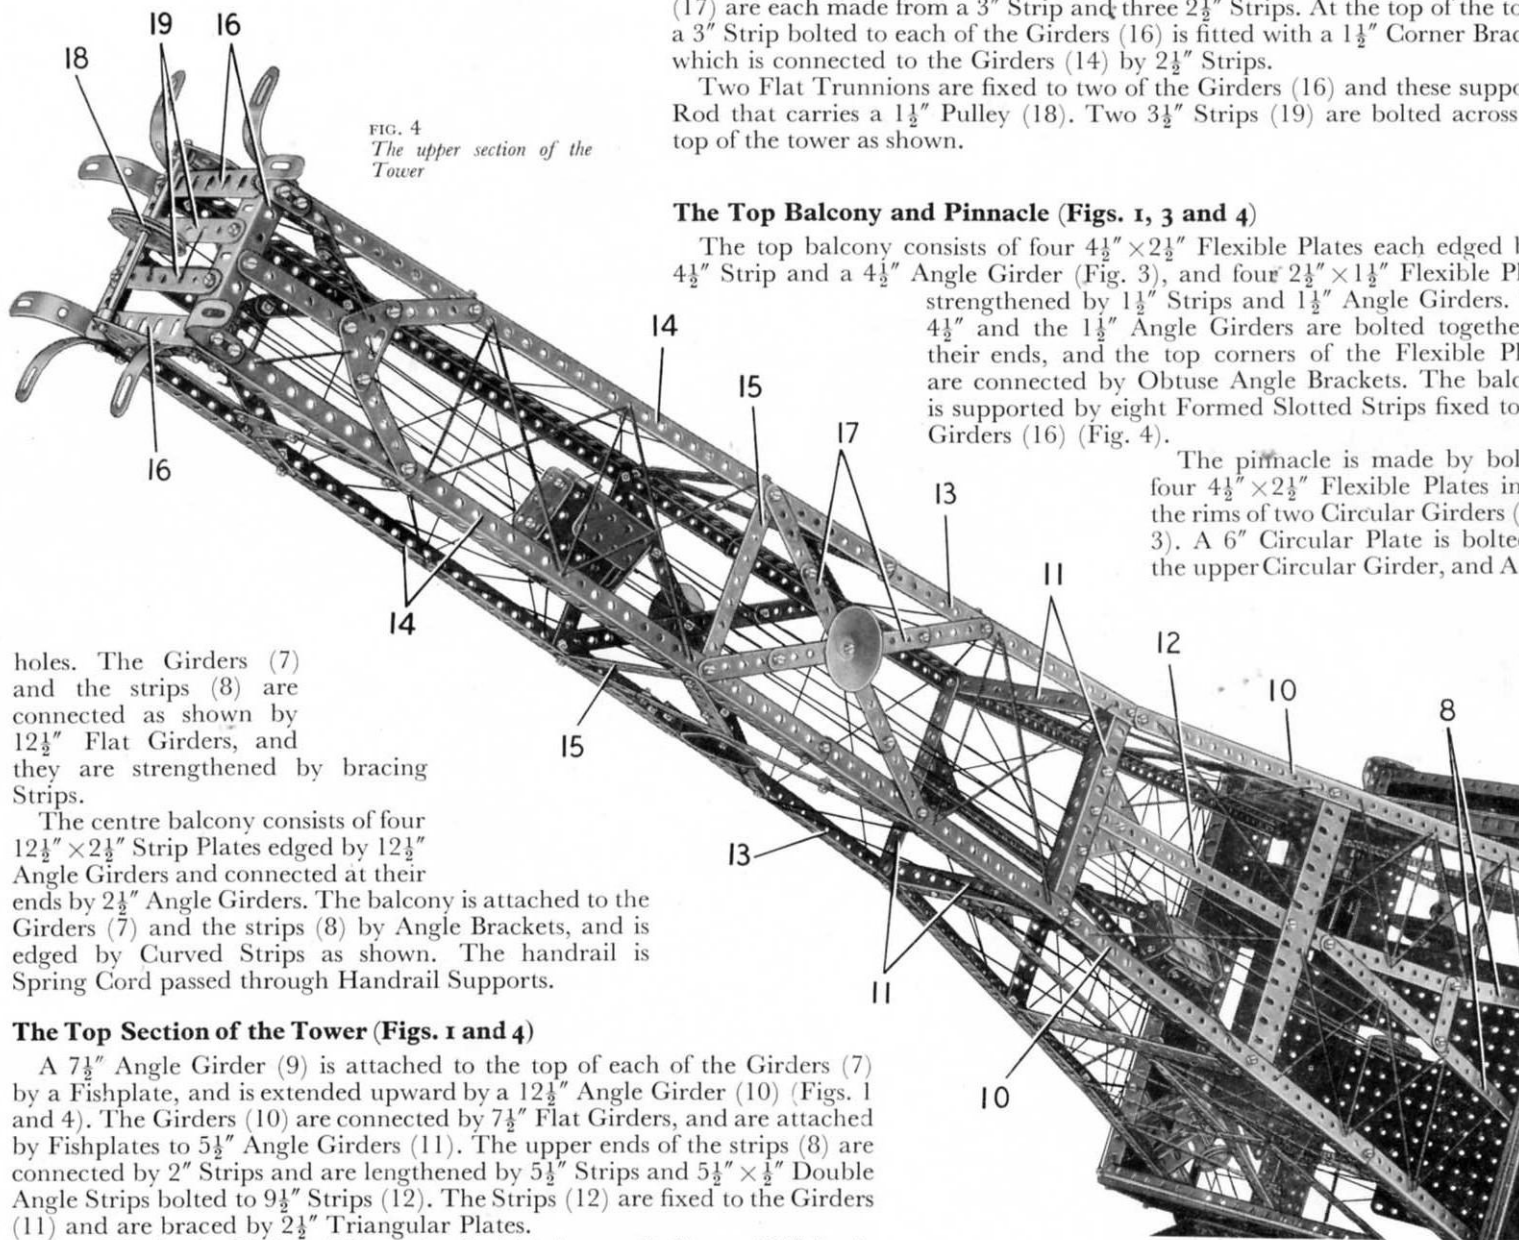
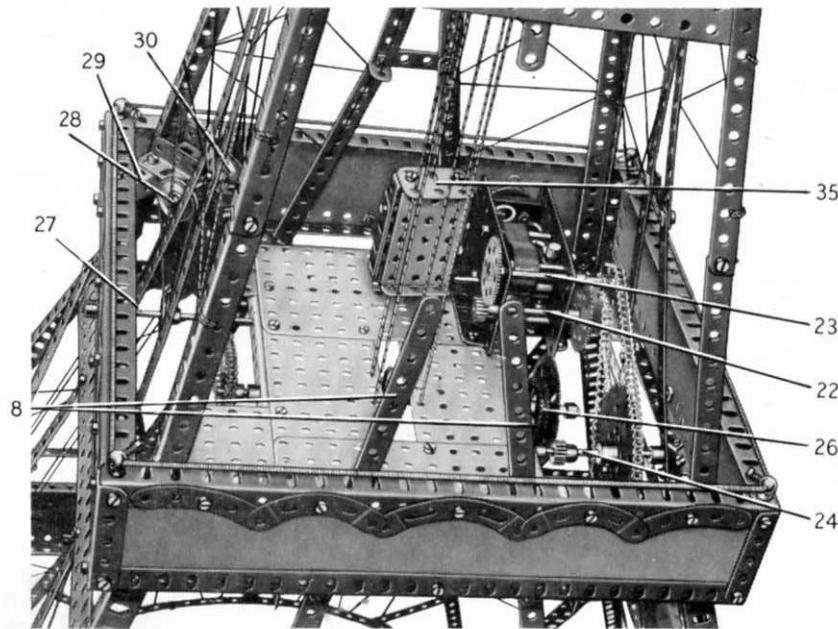
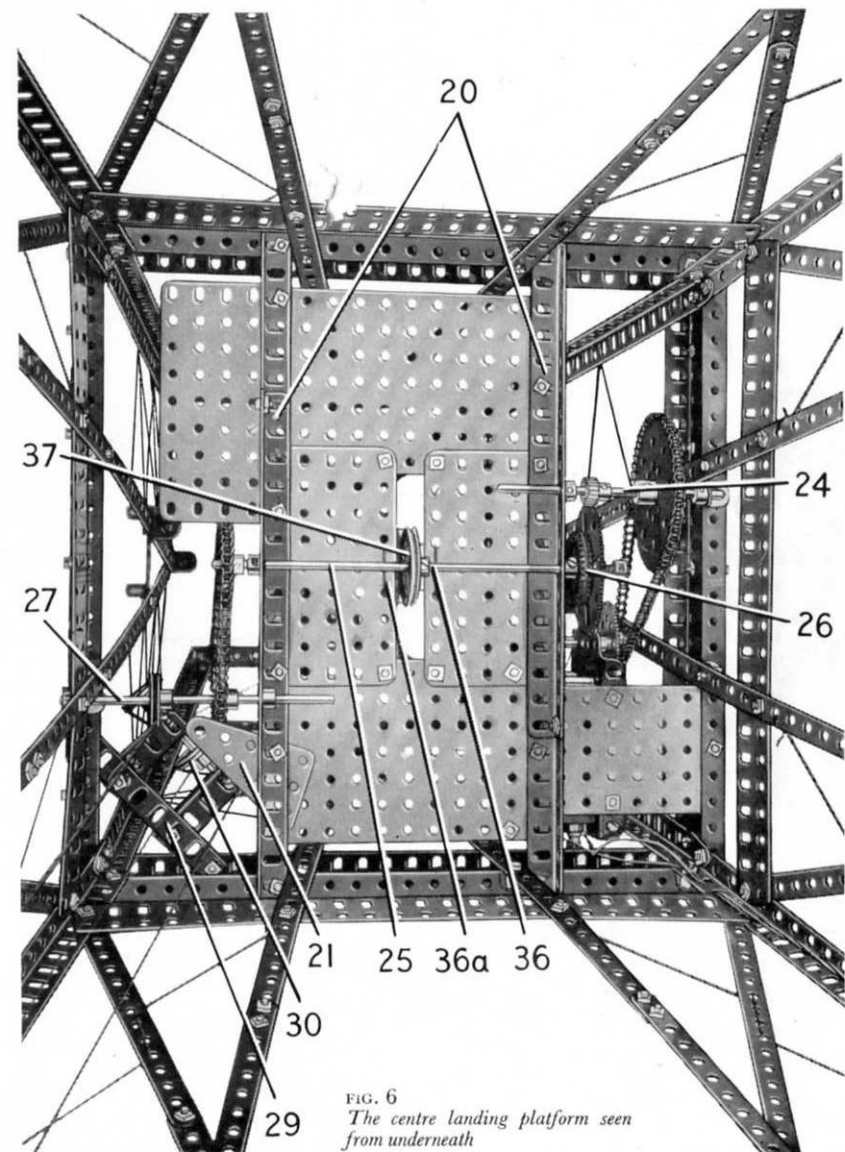

FIG. 4
FIG. 5
FIG. 6
The top balcony consists of four  $4\frac{1}{2}$ "  $\times$   $2\frac{1}{2}$ " Flexible Plates each edged by a  $4\frac{1}{2}$ " Strip and a  $4\frac{1}{2}$ " Angle Girder (Fig. 3), and four  $2\frac{1}{2}$ "  $\times$   $1\frac{1}{2}$ " Flexible Plates strengthened by  $1\frac{1}{2}$ " Strips and  $1\frac{1}{2}$ " Angle Girders. The  $4\frac{1}{2}$ " and the  $1\frac{1}{2}$ " Angle Girders are bolted together at their ends, and the top corners of the Flexible Plates are connected by Obtuse Angle Brackets. The balcony is supported by eight Formed Slotted Strips fixed to the Girders (16) (Fig. 4).
#### **The Centre Landing Platform and Operating Mechanism (Figs. 5, 6 and 7)**
Two built-up girders (20) (Fig. 6) are bolted underneath the centre balcony and to them are bolted Flat Plates as shown in Figs. 5 and 6. These Plates comprise two 5 1/2" x 3 1/2" Flat Plates and four 4 1/2" x 2 1/2" Flat Plates. A 2 1/2" x 1 1/2" Triangular Flexible Plate (21) is arranged as shown at one corner of the platform.
An E20R(S) Electric Motor is bolted to the platform and a 7/16" diameter Pinion on its armature shaft drives a 60-tooth Gear on a 2 1/2" Rod (22) (Fig. 5). A 1/2" Pinion on this Rod engages a 57-tooth Gear on a 3 1/2" Rod (23), which carries also a 3/4" Sprocket. This Sprocket is connected by Chain to a 3" Sprocket on a Rod (24) mounted in one of the girders (20) and in an Angle Bracket bolted underneath the balcony. A 1/2" Pinion on Rod (24) drives a 2 1/2" Gear that is loosely mounted on a 6 1/2" Rod (25). A Compression Spring is placed on this Rod between the Gear and a Collar, and it forces the Gear against a Motor Tyre (26) on a 1" Pulley fixed on the Rod. This arrangement forms a
A 1 1/2" Sprocket on Rod (25) is connected by Chain to a 3/4" Sprocket on a 5" Rod (27) (Fig. 6). This Rod is mounted in one of the girders (20) and in an Angle Bracket bolted underneath the balcony. A Driving Band is passed round
a 1" Pulley on Rod (27) and round a similar Pulley on a  $2\frac{1}{2}$ " Rod (28) (Fig. 5). Rod (28) is supported in two 2" Angle Girders bolted to a built-up girder (29). The girder (29) consists of a 3" Angle Girder and a  $1\frac{1}{2}$ " Angle Girder bolted together. A 1" Pulley (30) is fixed on Rod (28).
The two lifts that operate between the centre platform and the top of the tower are each made by bolting two  $2\frac{1}{2}$ " x  $\frac{1}{2}$ " Double Angle Strips between the flanges of a  $2\frac{1}{2}$ " x  $1\frac{1}{2}$ " Flanged Plate. A Girder Bracket is fixed to one Double Angle Strip, and a  $1\frac{1}{2}$ " Flat Girder (35) (Fig. 5) is bolted to each flange of the Flanged Plate. The guide Cord for the lifts is tied to one of the Strips (19) (Fig. 4), is passed through the Flat Girders (35) of one lift, and through the second stage platform as indicated at (36) (Fig. 6). The Cord is passed through the Flat Girders (35) of the second lift and is taken through holes in the Strips (19) before it is again passed through the Flat Girders of the second lift. The Cord is then taken through the centre platform at (36a) (Fig. 6) and is tied to one of the Strips (19).
The operating Cord for these lifts is tied at one end to a Tension Spring placed inside one of the lifts. The Cord is passed through the top  $1\frac{1}{2}$ " Flat Girder of this lift, round the Pulley (18) and through the top  $1\frac{1}{2}$ " Flat Girder of the second lift, where it is tied to another Tension Spring. A length of Cord fastened to the lower end of this Spring is passed through the bottom  $1\frac{1}{2}$ " Flat Girder, is taken round a  $1\frac{1}{2}$ " Pulley (37) (Fig. 6) on Rod (25), through the bottom of the second lift and is tied to the lower end of the Spring in this lift.